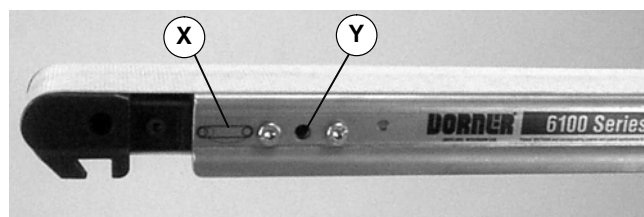

Figure 20
3. On tension end of the conveyor identified with a  label (X Figures 20 & 21), insert a 5 mm hex key wrench to engage pinion gear (Y of Figure 20).
4. On tension end of the conveyor identified with a  label (X Figures 20 & 21), insert a 5 mm hex key wrench to engage pinion gear (Y of Figure 20).
1. On tension end of the conveyor identified with a  label (X Figures 20 & 21), insert a 5 mm hex key wrench to engage pinion gear (Y of Figure 20).
NOTE: On pinion gear (Y of Figure 20), do not exceed a torque of 25 in-lb (2.8 Nm) for 2" to 12" (44 mm to 305 mm) wide conveyors and 40 in-lb (4.5 Nm) for an 18" (457 mm) wide conveyor. Over-tensioning the conveyor belt could cause excessive pulley bearing load and early failure.